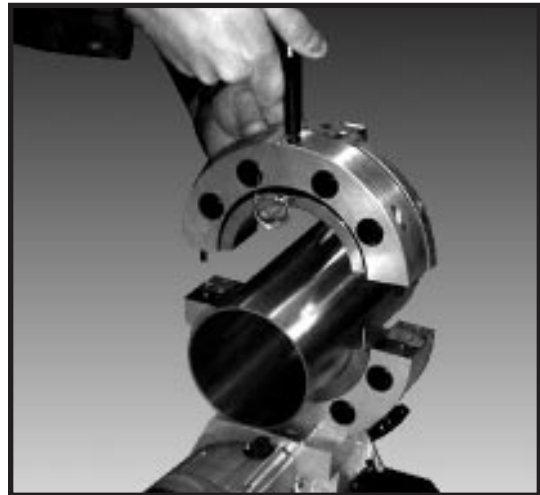

FIGURE 2
3. Position frame halves around workpiece (Figure 2).